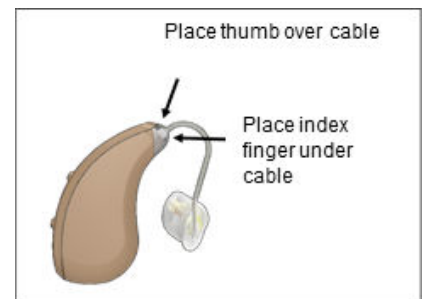

Figure 41. Cable Removal
- Hold the Processor in one hand and with the other hand place your index finger under the cable where it connects to the Processor with the thumb on top of the cable (Figure 41).